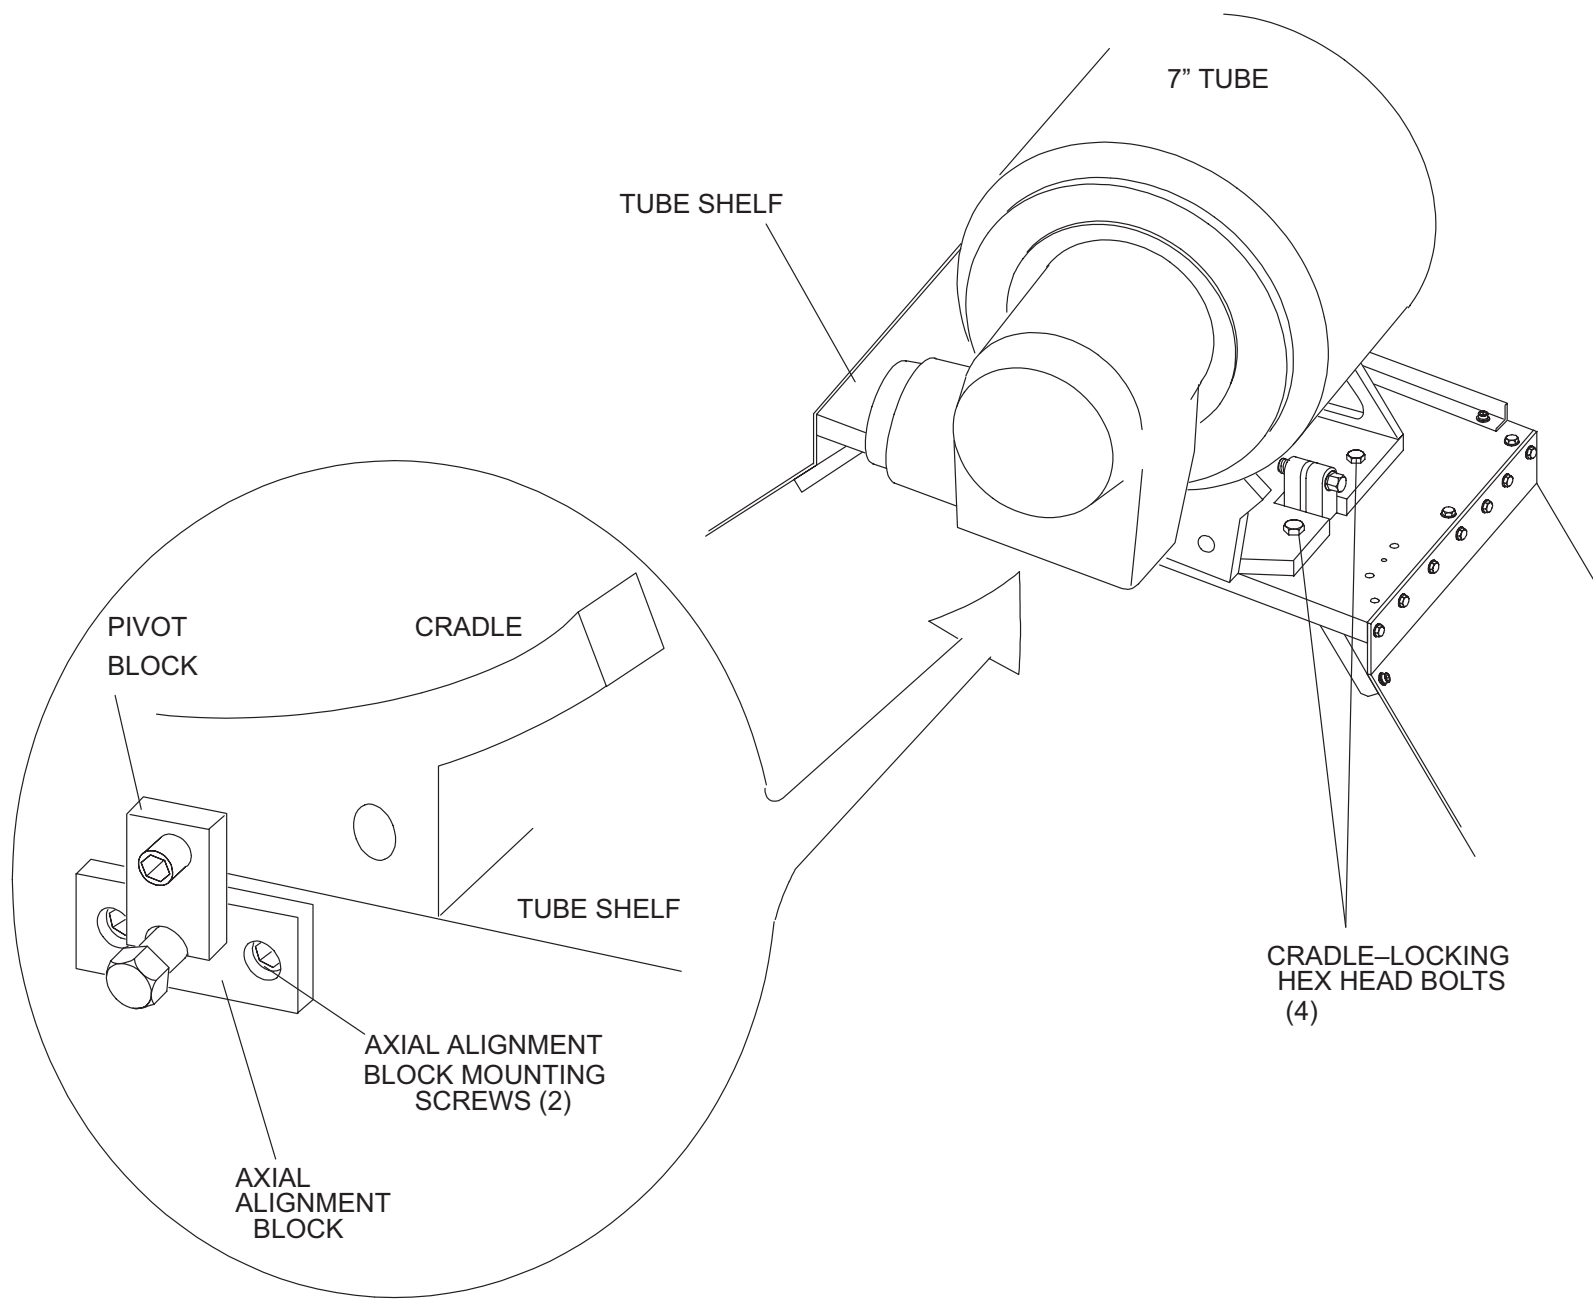

FIGURE 49 TUBE MOUNTED ON SHELF
4. Remove the Cradle-locking Hex Head Bolts and Washers. Refer to Figure 49. (This figure shows the tube in its installed position.)